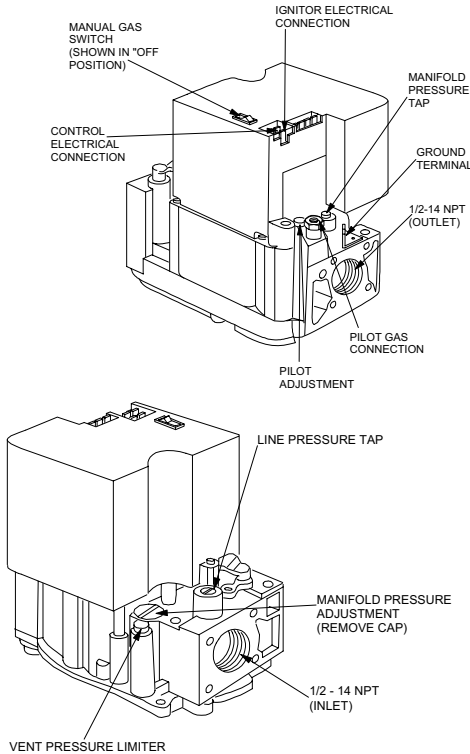

FIG. 6 - GAS VALVE
Small adjustments to the gas flow may be made by turning the pressure regulator adjusting screw on the automatic gas valve. Refer to Figure 6.
1. Remove the cap from the valve body. See Figure 6 for location.